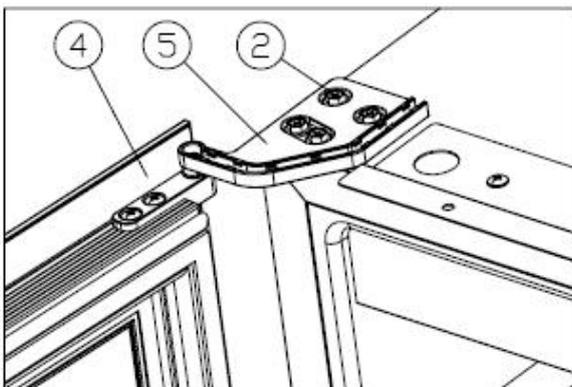

Figure 6
- ✧ Turn the door④ 180 degrees, and insert the right lower hinge⑤, screw tight M5\*16 screws②.[Figure 6]Door reversing is finished.